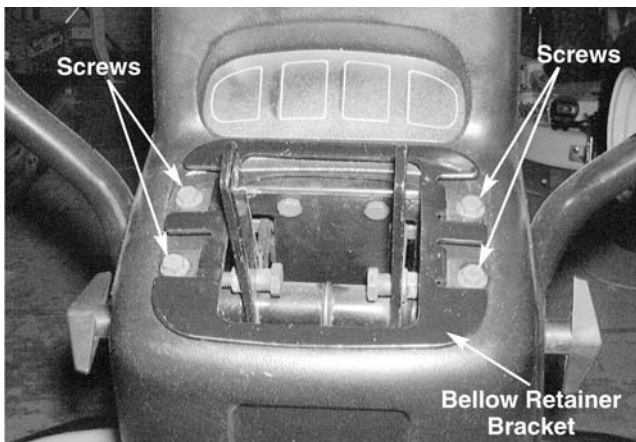

Figure 10-3.
7. Remove all four hex washer head screws securing the bellow retainer bracket to the top of the support tower using a 3/8 socket. See Figure 10-3.